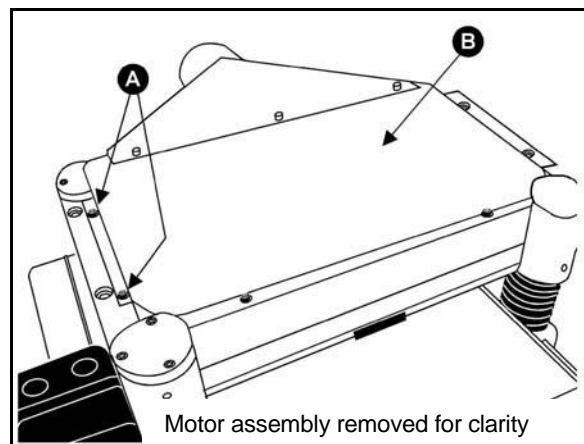

Figure 20
2. Remove four hex cap screws (A, Fig. 20) from the upper cover and three from the bottom of the dust port. Remove the cover/dust port (B, Fig. 20) as a unit.
2. Remove four screws (A, Fig. 20) from the upper cover and three from the bottom of the dust port. Remove the cover/dust port (Fig. 20) as a unit.